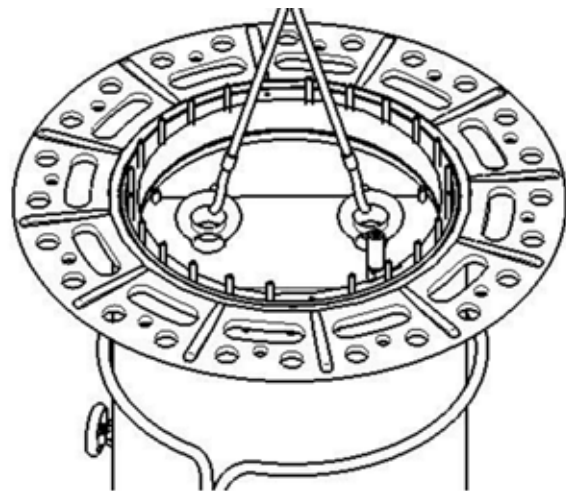

Figure 27 Lift the tap-changer
- 4) Lift the tap-changer slightly using special slings. Make sure that all screws of the support flange are accurately positioned in the tap-changer fixing hole (Figure 27).